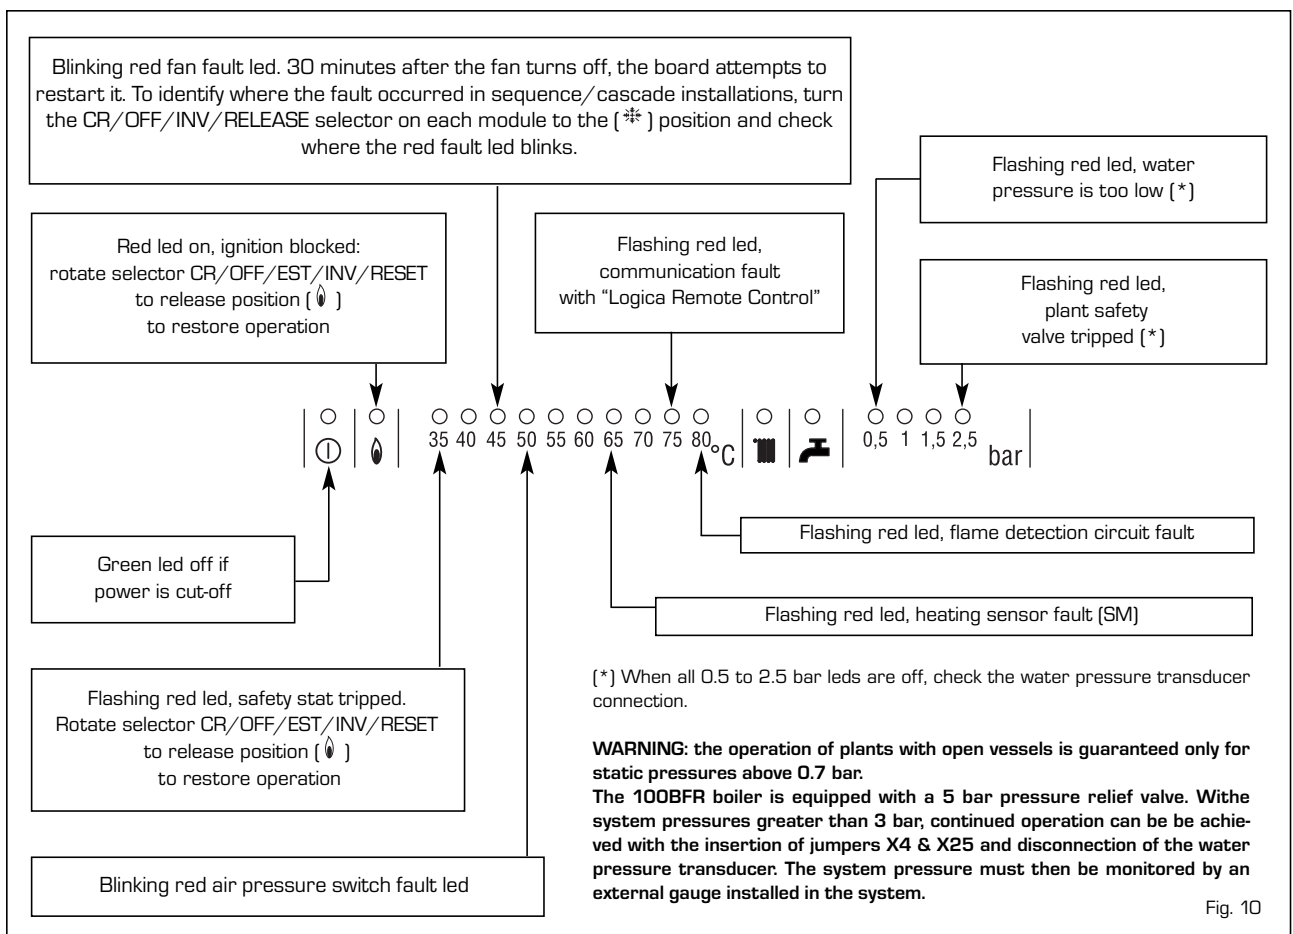

Fig. 10
3.1.1 Malfunctions (fig. 10)
Boiler malfunctions or failures can be indicated by a flashing temperature LED as shown in fig 10.
Rotate the selector to summer or winter and check the green led (Ⓛ) to make sure power is on. The burner should ignite within max. 10 seconds. An ignition failure will cause the "Ignition Lockout" indicator (fig 10) to illuminate. This may be due to the following: